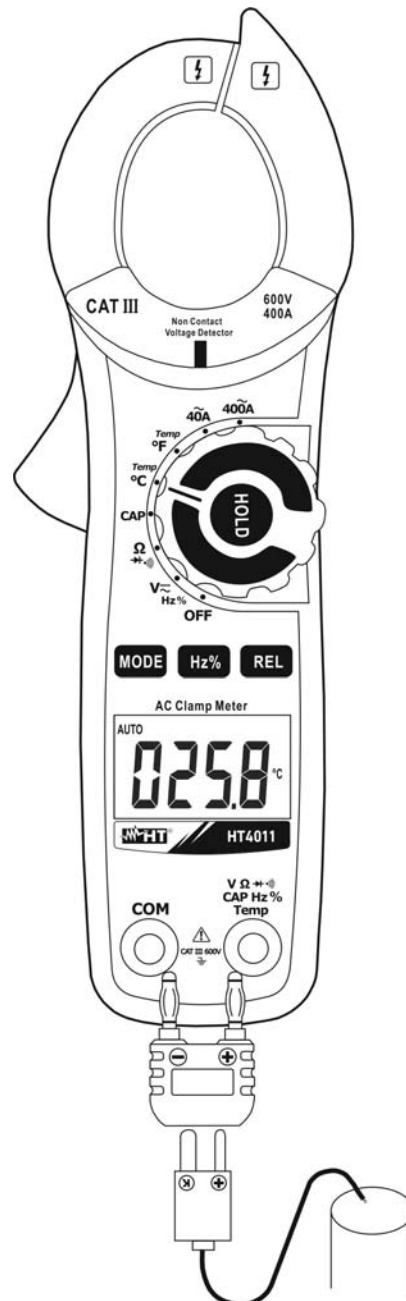

Fig. 8: Use of the clamp for temperature measurement
2. Insert the K wire probe provided into input terminal **VΩ→+•••CAPHz%Temp** and **COM** by means of the relevant adapter, respecting the polarity indicated in Fig. 8. The display shows the value of temperature.